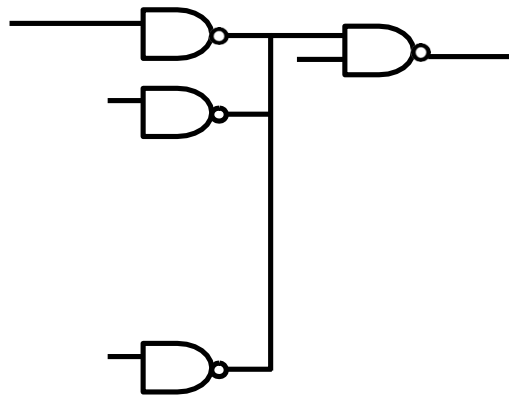

Figure 4 Fan in of logic gate
11. **Fan in:** This is the number of inputs of a logic gate. It is decided by the input current sinking capability of a logic gate as shown in Figure 4.